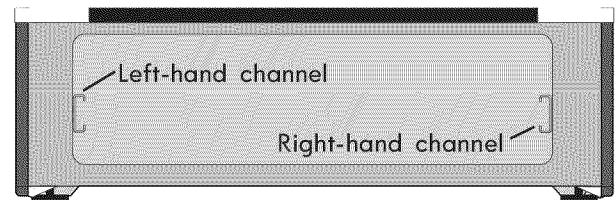

Figure 41: Channel alignment
2. Carefully line up both sides of the warmer drawer glide rails to the outer compartment glide channels located inside the empty warmer drawer compartment (See Figure 41).